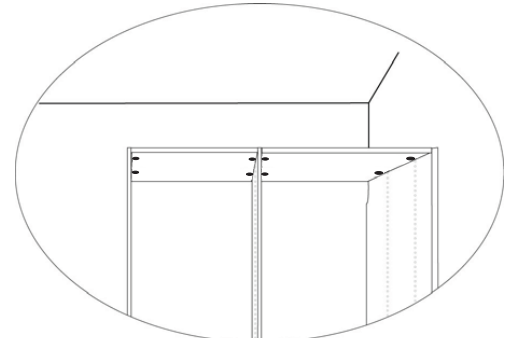

Fig. 2
- There are two types of top shelf material: continuous (Fig. 1), using "scrap material" and cammed (Fig. 2), or using existing 3/4" cammed shelving. These instructions provide the steps for installing both types of top shelving as well as pole installation.
- Cammed shelving (see Fig. 2) may be installed as the shelf towers are assembled, leaving only gaps for irregularly sized sections and corner connecting shelves when corner shelving components are not used.
- Install the four screw-in or double-sided studs into the four (4) system holes for the cammed top shelf. Fasten the custom cammed top shelf to the studs.